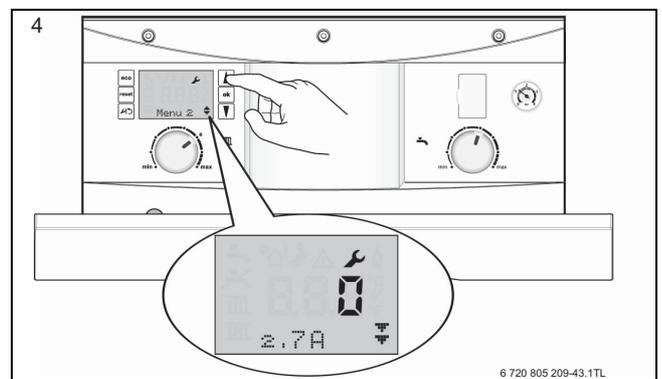

Fig. 68
4. Select the desired menu option using the arrow buttons (refer to figure 68) and press the OK button, the option will flash.